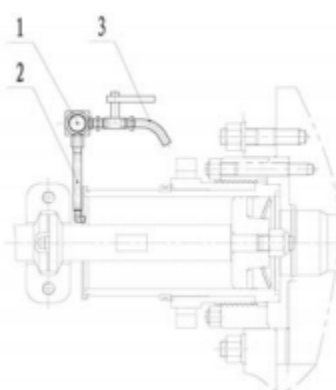

Fig. 6 Spray Pipe
F-1600HL metric drilling pump adopts the fixed spray pipe as shown in Fig. 6, including nozzle (1), steel pipe (2) and spray pipe (3) which fixed on the frame. It shall spray the cooling liquid to the cylinder liner and piston. Adjust the water supply of manifold and often check the nozzle to let the sprayed fluid directly on the piston.